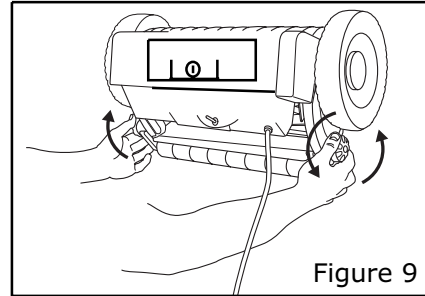

Figure 9
- (2) Loosen the two large black knobs, one on each side of the mower body, to allow movement of the roller arms. (See Figure 9)